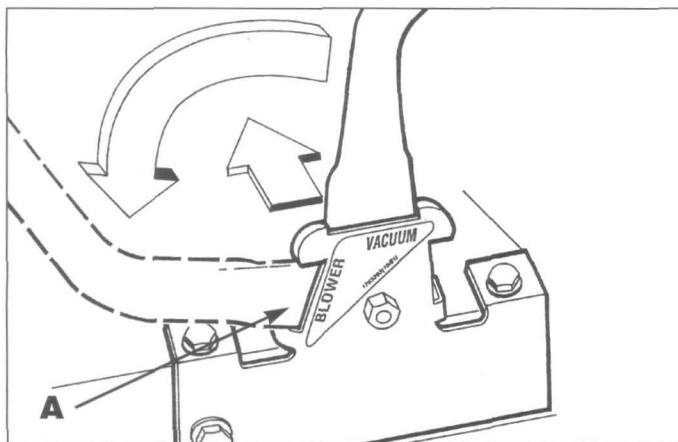

Figure 16: Adjust handlebars to "blower" position.
B. Release the handlebars ends in the "blower" notches (**A**). See Figure 16.